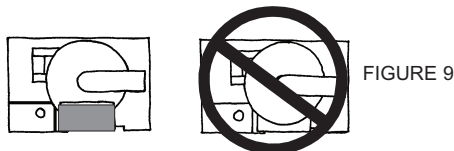

FIGURE 9
- Close drain valve and completely refill fryer. Refer to Figure 9.